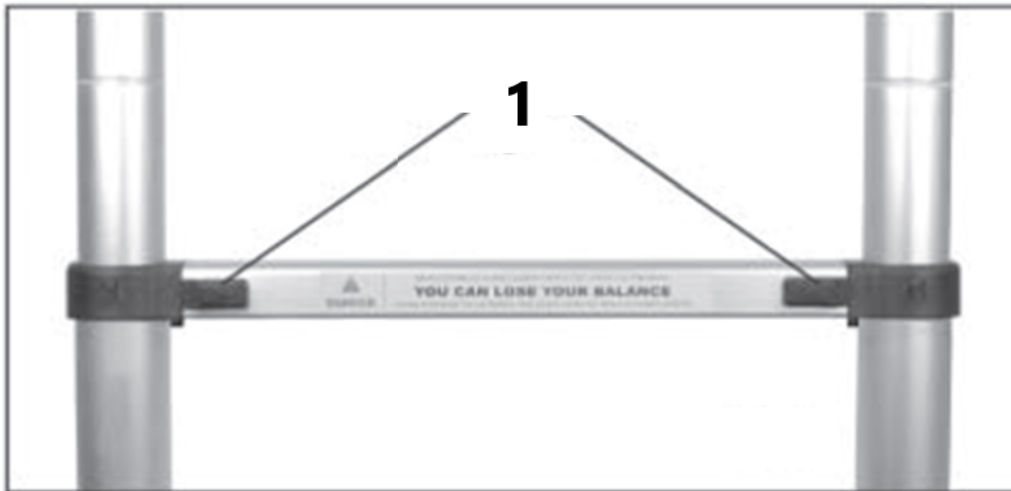

Figure 1.
To collapse the Telescopic Ladder down to its closed position, push the Locking Levers (3) together simultaneously (Figure 1 above) and release.
Each mechanism is connected to a locking lever visible on the outside (see Fig. 1).